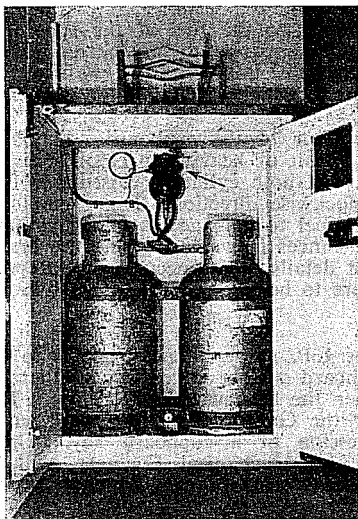
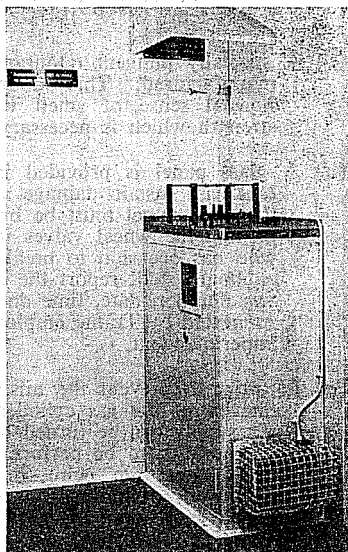

Fig. 1
Fig. 2
The supply of gas is controlled by an automatic device shown in Fig. 1 and indicated by the arrow. In order that failure of supply may be prevented, Guards will be required to adopt the following procedure:—
- (a) On joining the van, the automatic device should be inspected to ascertain whether or not a red disc is visible at the point indicated in Fig. 1. This red disc is more readily visible in a remote indicator shown in Fig. 2. Should this red disc be not visible, both cylinders of the installation contain gas and providing the equipment is not tampered with by unauthorized staff, there is sufficient gas for the continuous use of the gas appliances for a period in excess of 200 hours.